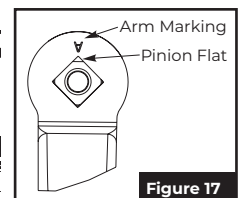

Figure 17
**NOTE:** Pinion flat should be aligned as shown. (Figure 17)